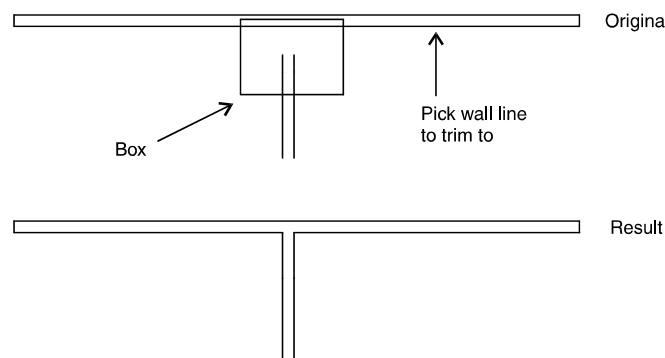

Figure 12.11: Cleaning a T-shaped intersection
5. Click on the wall line to trim to (see Figure 12.11). The intersection is cleaned.